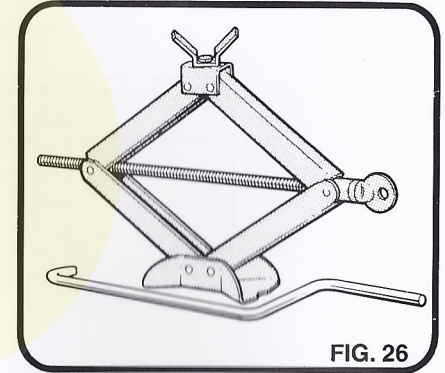

FIG. 26
**Scissor Jacks (Fig. 26) Part No. 356 858**